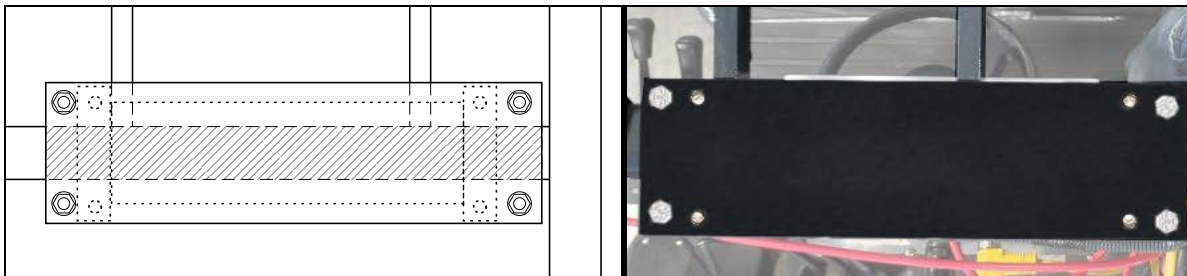
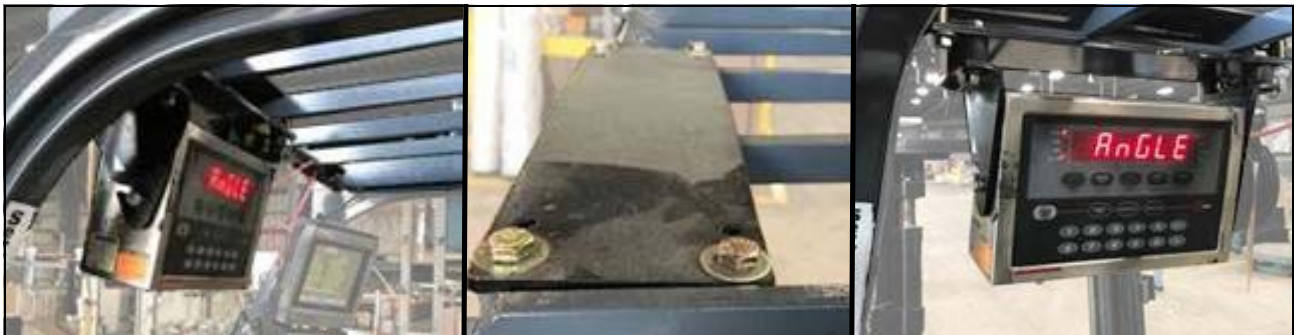

Figure 4. Top View of Mounting Location
Figure 5. Mounting Location Examples
2. Attach mount assembly lengthwise to the front primary structural member of forklift frame (Figure 4 and Figure 5).